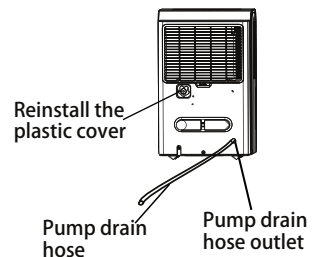

Fig. 10
- Remove the continuous drain hose from the unit and install the plastic cover to the continuous drain hose outlet of the unit by clockwise rotation. (See Fig. 10)
- Insert the pump drain hose into the pump drain hose outlet for at least 15 mm (See Fig. 10), then lead the water hose to the floor drain or a suitable drainage facility.